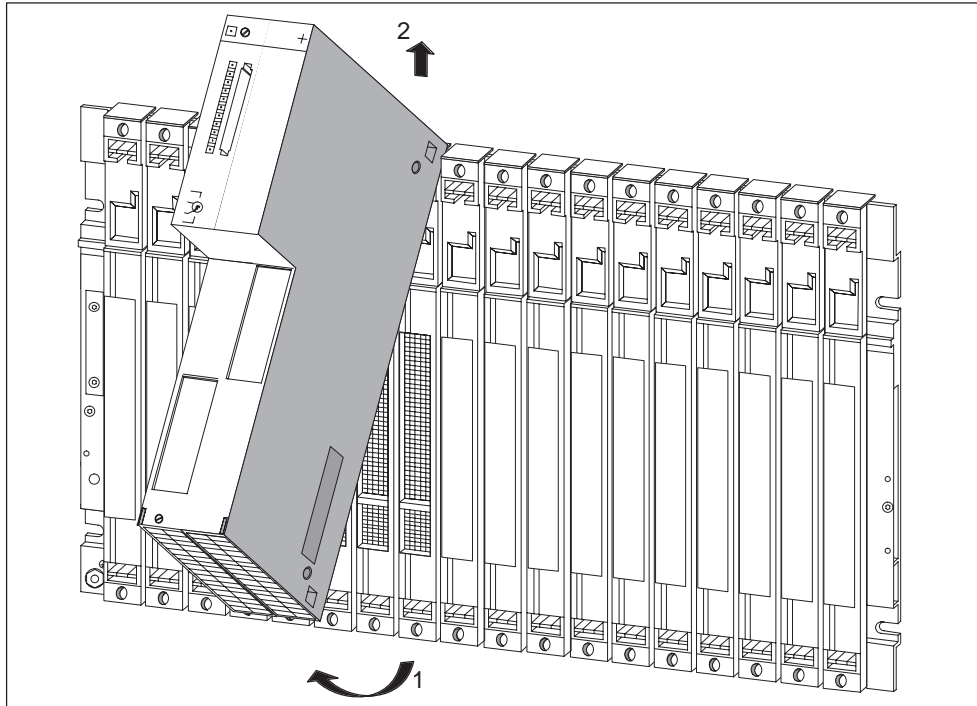

Figure 3-4 Swinging the Module Group Out and Removing Upwards
7. Swing out the module group and remove it upwards (Figures 3-4 and 3-5).